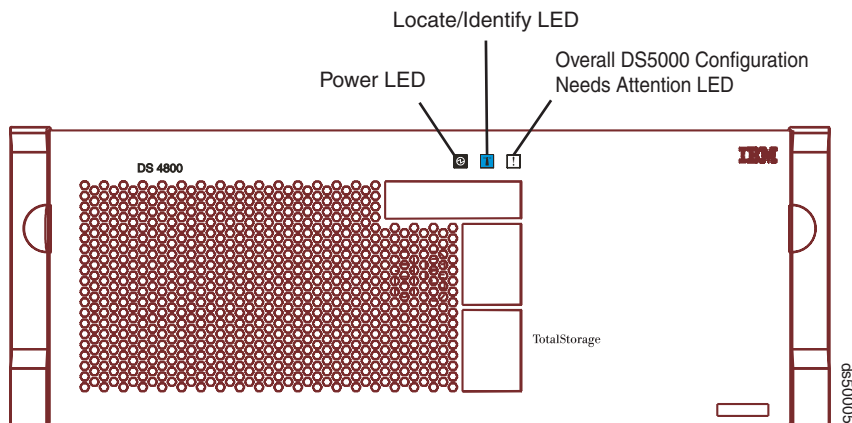

Figure 118. Overall Configuration Needs Attention LED on the DS5100 and DS5300 front bezel
1. Locate the failed interconnect-battery unit by checking the Overall Configuration Needs Attention LED on the front bezel of the storage subsystem. (Figure 118 shows the location of the Overall Configuration Needs Attention LED on the front bezel.)